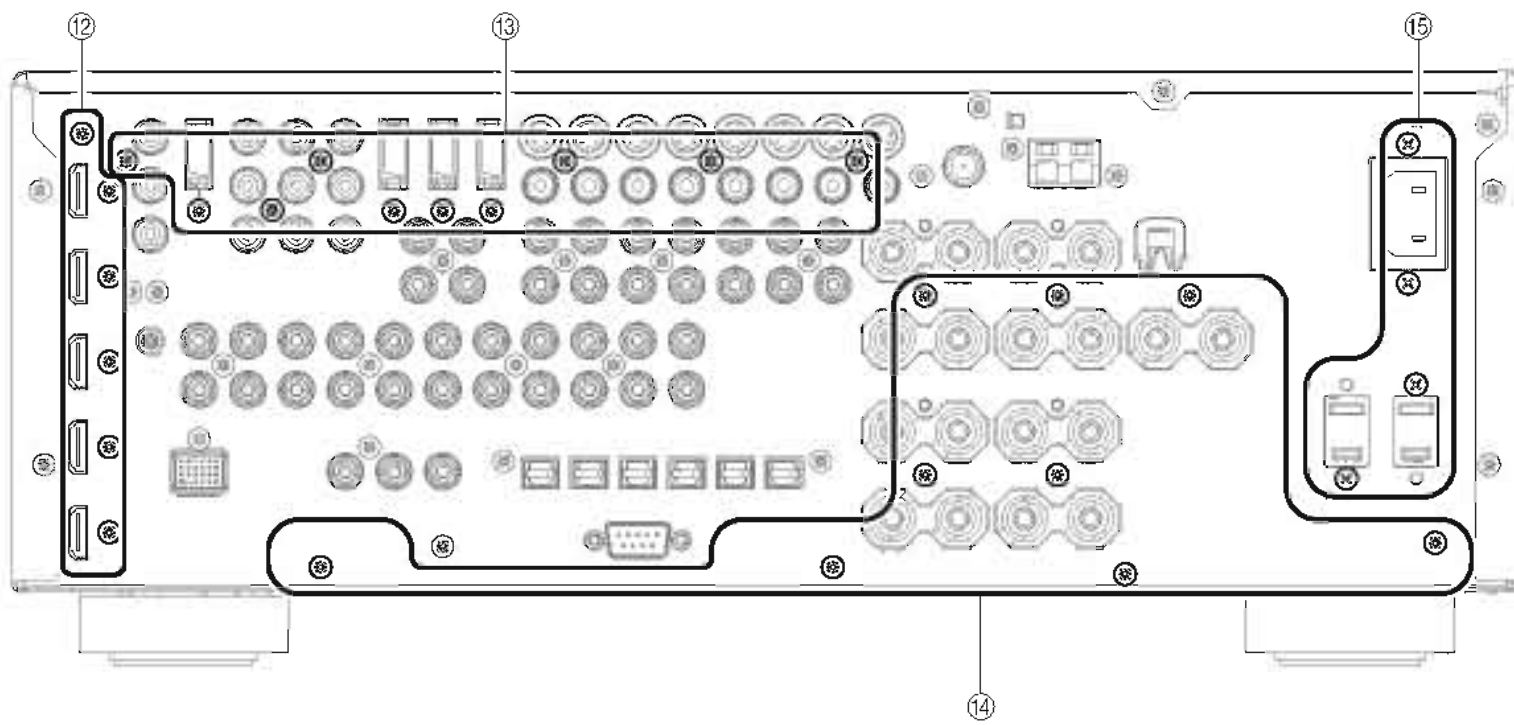

Fig. 6
- e. Remove 6 screws (⑫). (Fig. 6)
- d. ⑫のネジ6本を外します。(Fig. 6)
- a. Remove 6 screws (⑬). (Fig. 6)
- a. ⑬のネジ10本を外します。(Fig. 6)
- a. Remove 11 (U, C, T, A, B, G, E models) / 13 (R, L models) screws (14) and 4 (U, C, R, T, A, B, G, E, L models) / 2 (K model) screws (15). (Fig. 6)
- a. ⑭のネジ9本、⑮のネジ4本を外します。(Fig. 6)